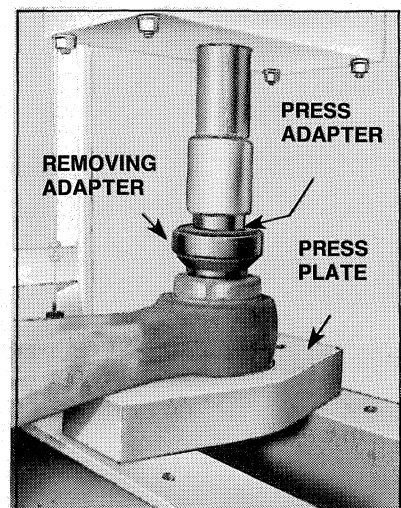

FIGURE 3
- Place the Press Plate (Item 1) on the press bolster. Position the equalizing beam on the press plate. Position the Removing Adapter (Item 7) and the Press Adapter (Item 6) onto the end bushing to be removed as shown in Figure 3.